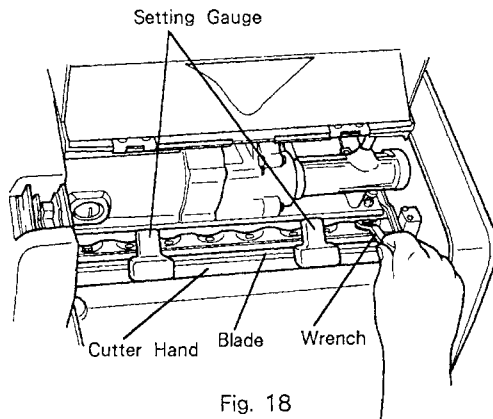
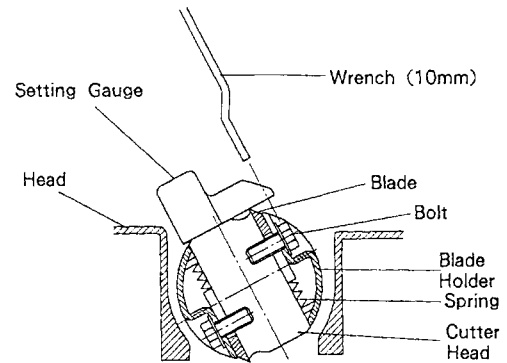

Fig. 18
Fig. 19
- (3) After inserting the Blade, press the provided Setting Gauges to the Cutter Head surface as shown in Fig. 18. Then, ensuring that the Blade evenly contacts the Setting Gauges, use the provided Wrench to temporarily tighten the outer Bolts as shown in Fig. 18 and Fig. 19.